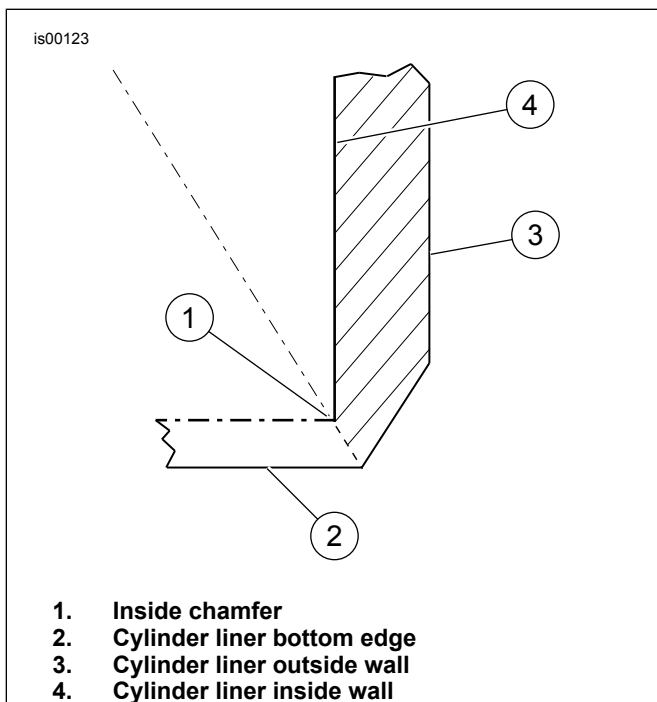

Figure 2. Inside Chamfer and Bottom Edge of Cylinder Liner
7. See Figure 2. After machining and honing, chamfer the bottom inner edge (1) of the cylinder liner. The chamfer provides a beveled surface for easier installation of the cylinder over the piston rings. Break leading edge of liner to a flat surface. The bottom edge of the liner (2) will be somewhat sharp after machining. This sharp edge could easily cause damage during installation of the cylinder.